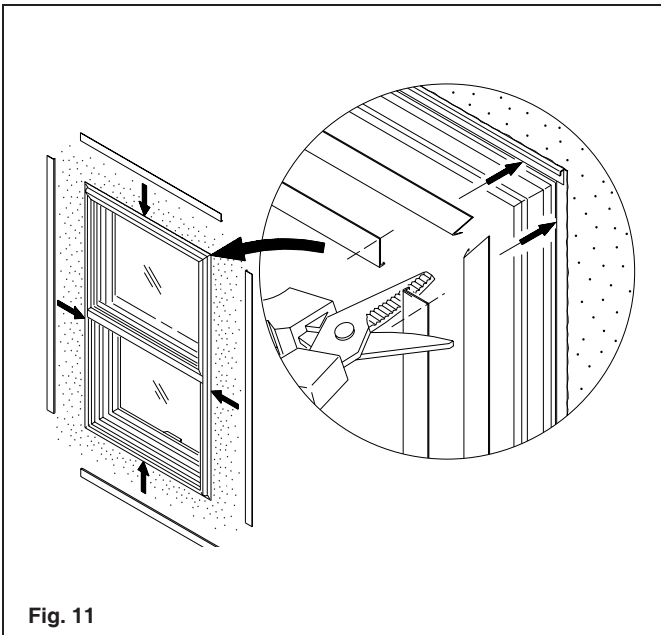

Fig. 11
A. An optional flat trim material is available to finish off the exterior look. The trim material will be sealed with an appropriate sealant and snapped into the gap that follows the perimeter of the frame. See Fig. 10. Measure the pieces to the frame and with a sharp knife or a heavy scissor, make a 45° cut for a miter fit. Care should be taken not to over cut trim. See Fig. 11.